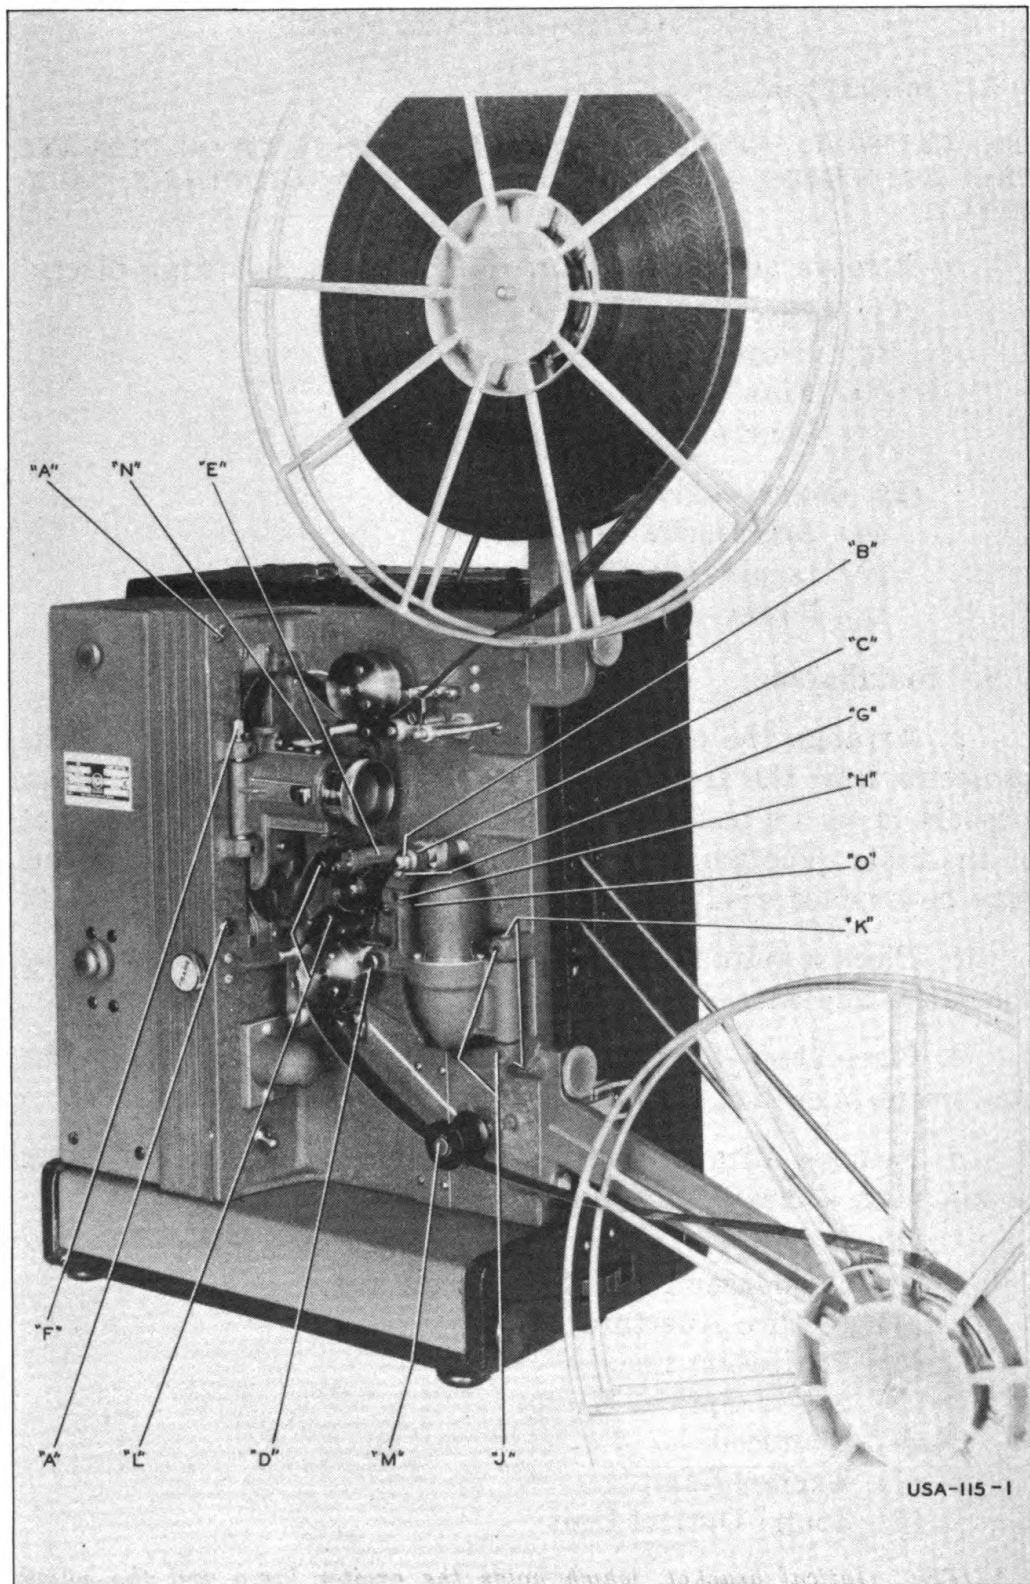

Figure 5—Projector—Operating Side
g. Install the upper and lower reel arms on the projector as shown in Figure 5.
h. Open the latches that hold the spring belts inside the case, pull the belts out and place in position around the reel pulleys on the respective reel arm. See Figure 5. Check that belts are seated properly in the pulleys. Test for freedom of movement by rocking each belt gently back and forth. If tight, trip take-up rewind lever and try again. If still tight, investigate and correct threading.
f. Set the "Take-up and Rewind" lever in the "Take-up" position. See Figure 5.
(c) Lift the sound drum pressure roller arm and pass the film around the sound drum, threading over each of the guide rollers as indicated in Figure 5. Be sure to leave a loop of film of the size indicated by the white line between the lower part of the film gate and the upper sound drum guide roller. Lower the pressure roller arm in place, take care that it does not "snap" against the sound drum.